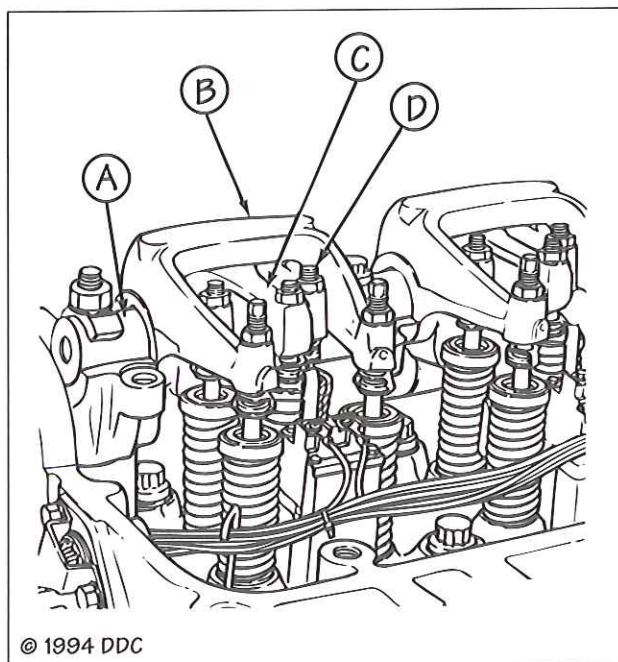

FIG. 3
Clean the engine thoroughly and remove the rocker cover and gasket. Note the location of the rocker arm shaft (A), the exhaust valve rocker arm (B), the fuel injector rocker arm (C), and the intake valve rocker arm (D) (see Fig. 3).